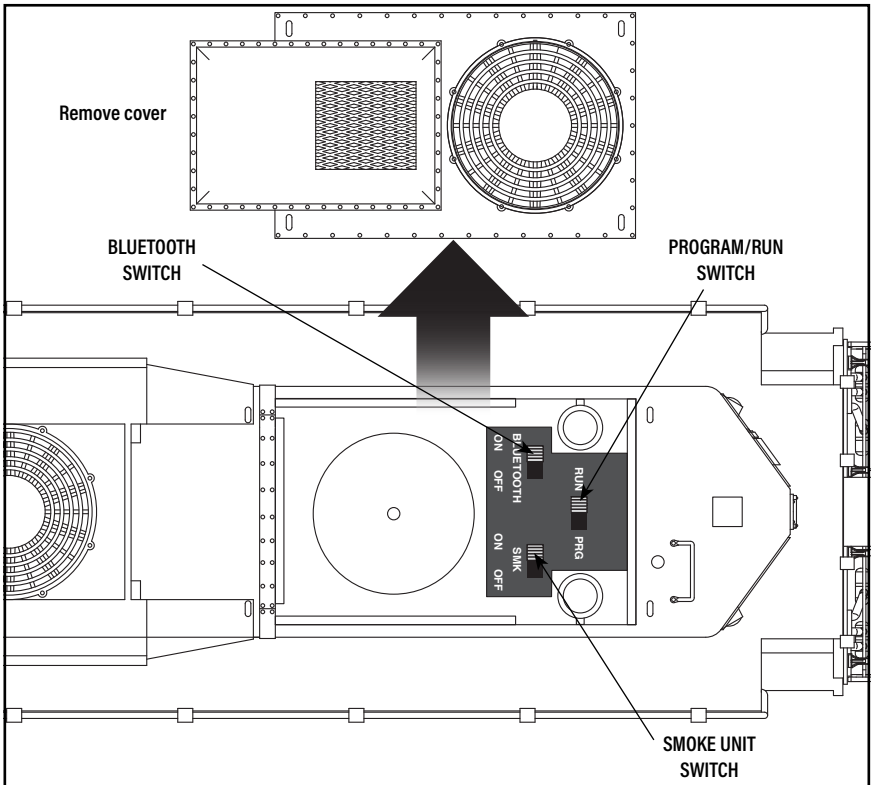

Figure 4. Switch locations
If you prefer to operate your locomotive without smoke, locate the smoke unit switches and slide it to the OFF positions. Refer to Figure 4 on page 9 for the location of the switch.
The functions of your locomotive's switches are outlined below. Refer to Figure 4 for the location of the switches. *The instructions below are specific to this particular locomotive; note that available features (and switches) may differ from other locomotives and locomotive sets.*
1. Slide the program-run switch on your locomotive to the PGM position. See Figure 4 on page 9.